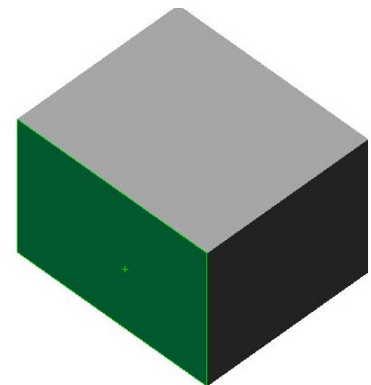

Figure 8 Sketch Plane for Rectangular Slot
- 1) Select the front surface of the base feature as shown in Figure 8.